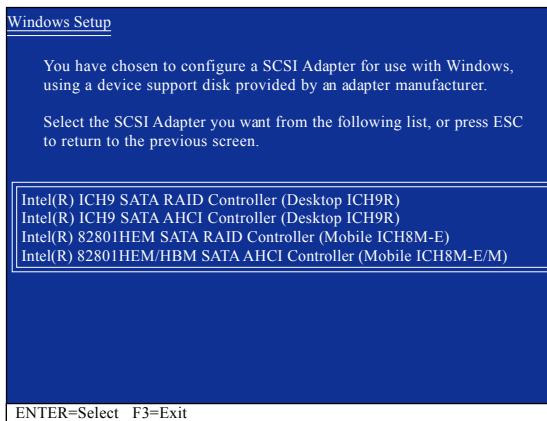

Figure 3
When Setup correctly recognizes the Intel ICH9R SATA RAID/AHCI driver in the floppy disk, a controller menu similar to Figure 3 below will appear. Use the arrow keys to select one of the items displayed and press <Enter>. If you set the **SATA RAID/AHCI Mode** item in BIOS Setup to RAID mode, select **Intel (R) ICH9 SATA RAID Controller (Desktop ICH9R)**. (Select **Intel(R) ICH9 SATA AHCI Controller (Desktop ICH9R)** for AHCI mode.)